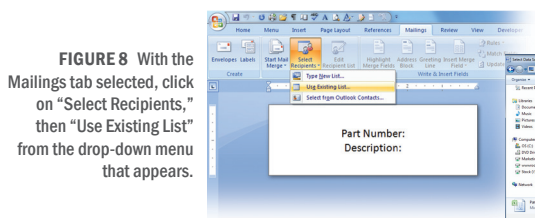
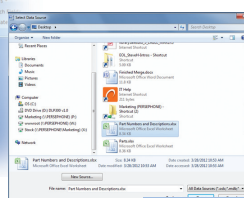
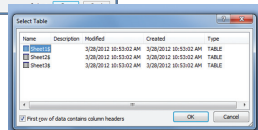

FIGURE 8 With the Mailings tab selected, click on "Select Recipients," then "Use Existing List" from the drop-down menu that appears.
FIGURE 9 Navigate the Select Data Source window to access your Excel file.
FIGURE 10 Select the Excel sheet number where your data is located from the Select Table dialog box.
F. Select the **Mailings** tab from the Word menu bar, then click on **Select Recipients** and **Use Existing List** (Fig. 8) from the drop-down menu. A **Select Data Source** window appears (Fig.9).
G. Locate and click the **Excel spreadsheet** you just saved using the **Select Data Source** window (Fig. 9). A **Select Table** dialog box appears (Fig. 10).